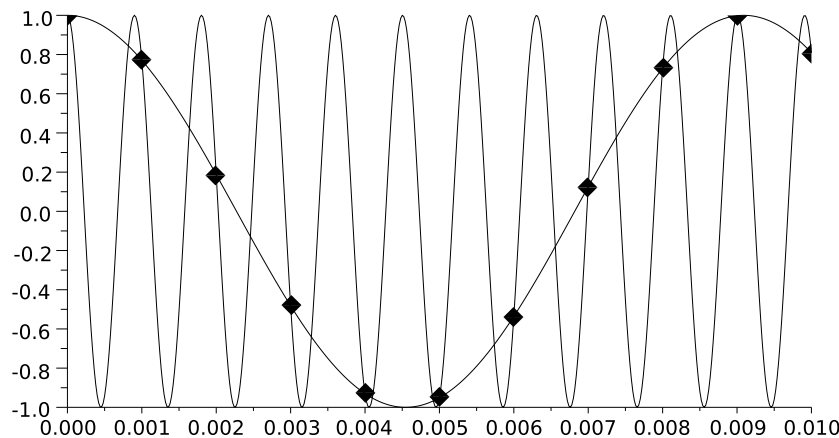

Figure 2: Aliasing of two sine waves.
Figure 2 shows an example of aliasing. Two possible input sine waves are shown: one has a frequency of 110Hz, the other has a frequency of 1110Hz. Both are sampled at 1000Hz. The dots show the value of the sine waves at the sampling instants. As indicated by (1)